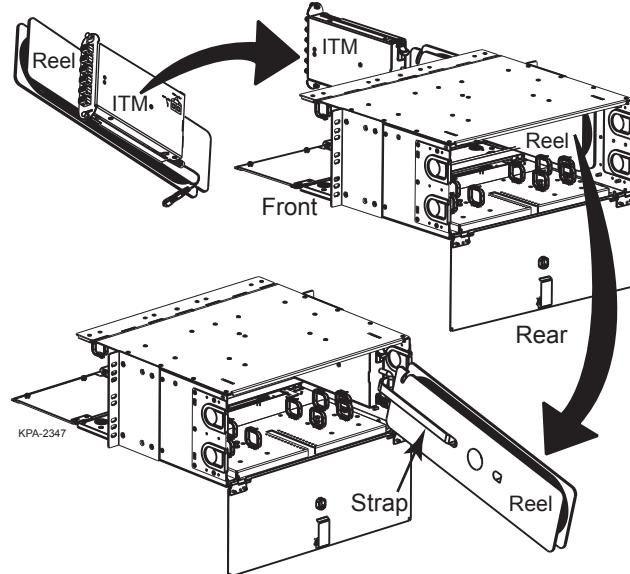

Figure 6
- Step 2:** ITMs with more than 40 feet of cable will have the excess cable shipped on an external reel. Insert the reel, if applicable, into the housing through the opening where the blank panel was removed. Then slide the module into the opening (Figure 6).